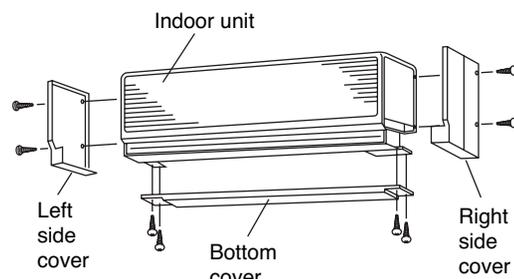

Fig. 3-51
- (a) Remove the 4 screws (2 on each side) and take off both left and right side cover. (Fig. 3-51)